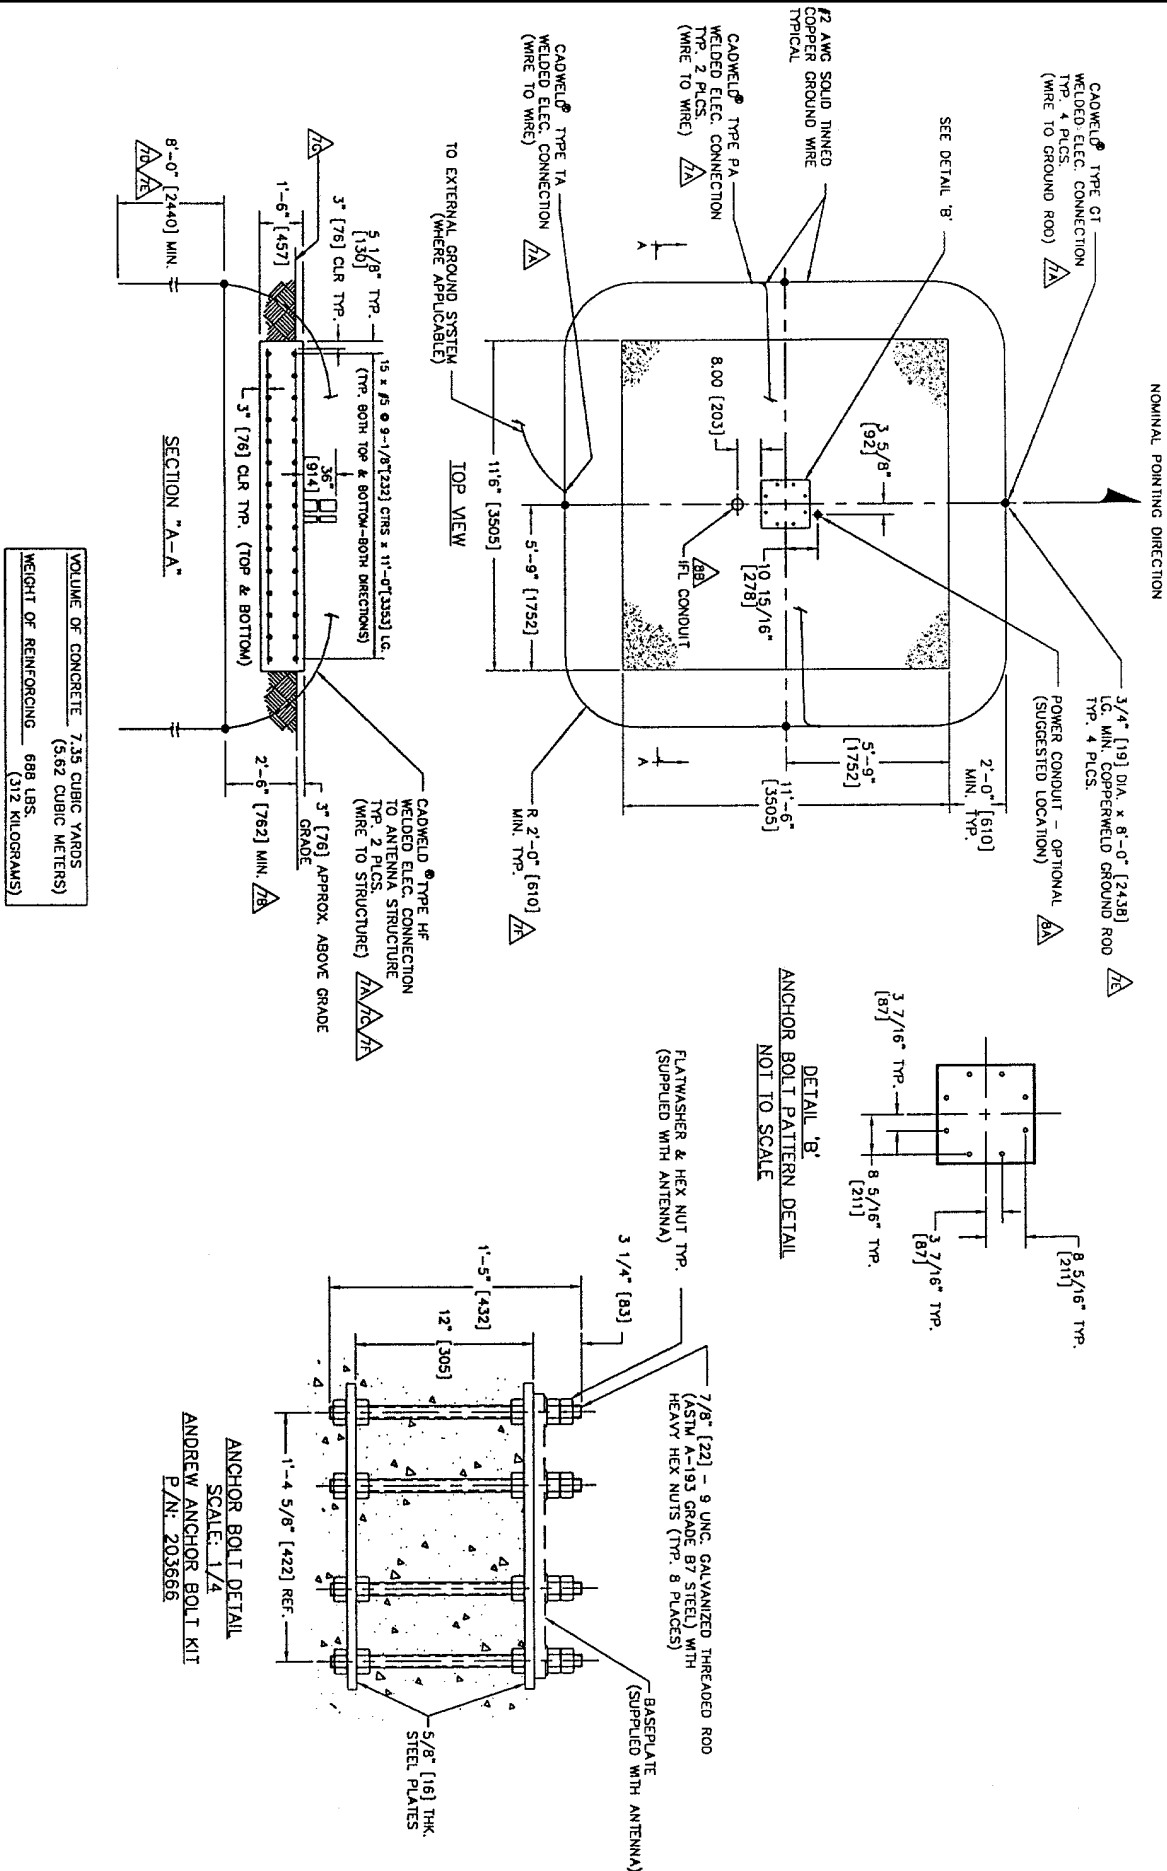

Figure 2
3.1 Typical anchor bolt installation configurations and dimensions are shown in Figure 2.
4.2 A typical slab type foundation is shown in Figure 2. A copy of this design on a D-size (22" x 33") sheet is available from Andrew on request. Refer to drawing number 240001.